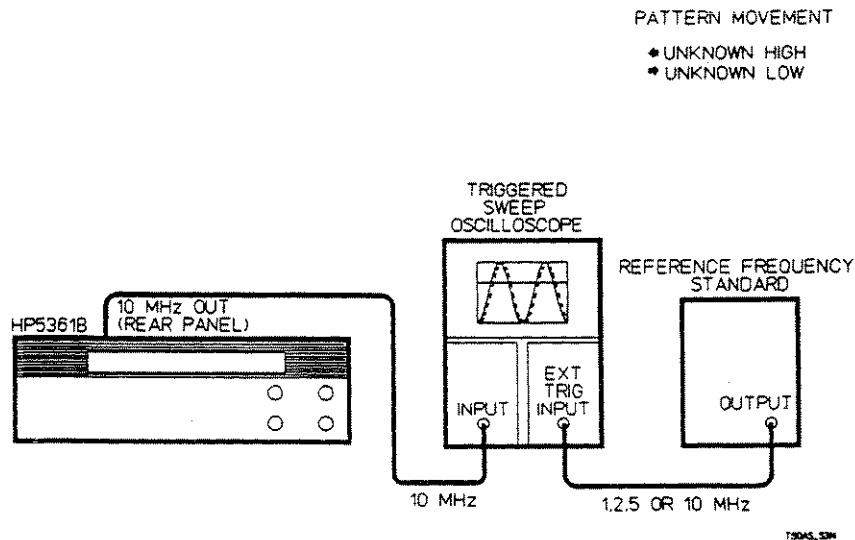

Figure 2-4. Oscillator Adjustment Setup
1. Connect a house standard (1, 2, 5, or 10 MHz reference frequency) to the EXTERNAL TRIG INPUT of an oscilloscope and set the main triggering to EXTERNAL. Connect the 5361B rear panel 10 MHz OUT to the Channel A input of the oscilloscope. (See Figure 2-4.)
The following procedure describes the adjustment of the Oven Oscillator Timebase (Option 001) and the High Stability Timebase (Option 010). To perform the adjustment, refer to Figure 2-4 and proceed as follows:
1. Connect a house standard (1, 2, 5, or 10 MHz reference frequency) to the EXTERNAL SYNC INPUT of an oscilloscope and set the oscilloscope to EXTERNAL SYNC. Connect the HP 5361B rear panel 10 MHZ OUT to the Channel A input of the oscilloscope. (See Figure 2-4.)